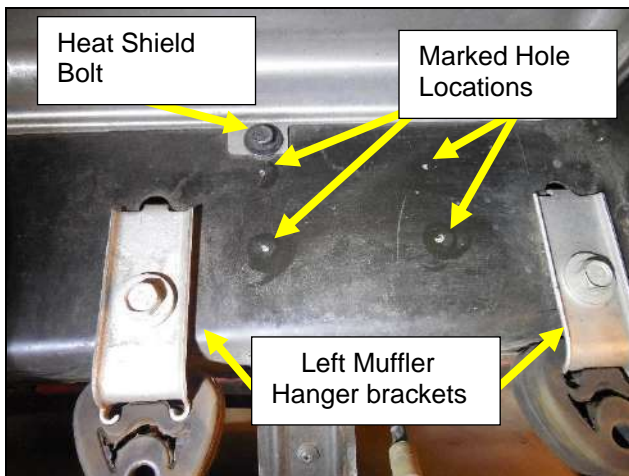
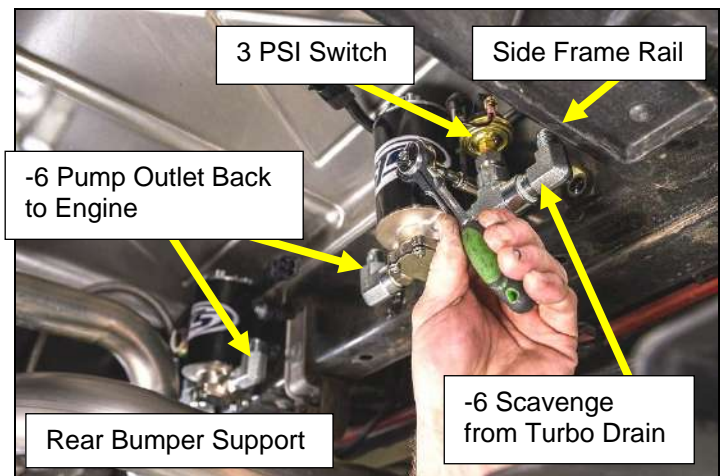

Figure 39
Figure 40
1. Install the driver's side (left) pump assembly into the car (**Figure 39**) up against the rear bumper reinforcement between the muffler brackets. Align the inside upper mounting hole to the heat shield bolt. Maintain approximately 1" clearance between the 90° fitting and the side frame rail (**Figure 40**). Hold the pump in place level with the bumper reinforcement. Mark inside the oil pump mounting grommet for a reference to pre-drill the holes for the mounting screws.